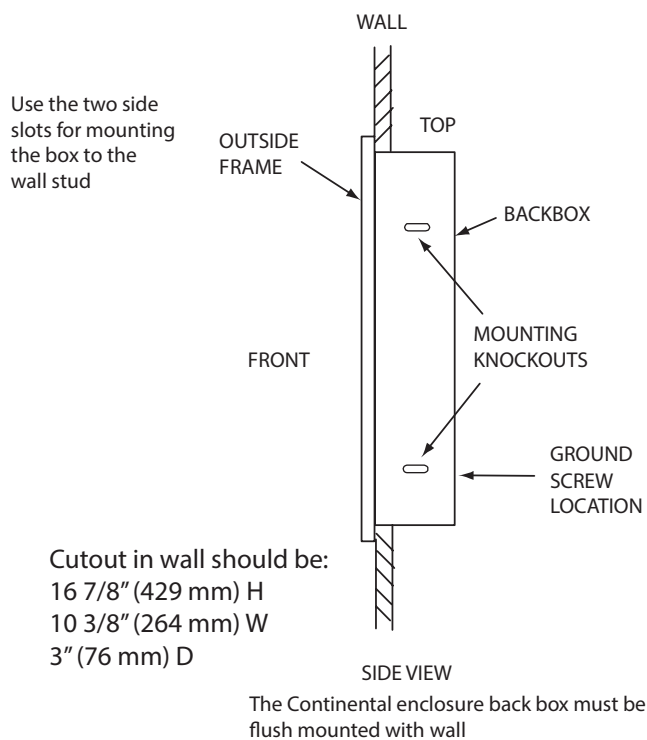

Figure 8. Mounting the Continental enclosure
The Continental enclosure flush mounts directly inside the wall to the wall stud as shown in figure 8. Mount the back box flush with the wall and right-side up (the ground screw location is at the bottom).
4. Insert the enclosure into the wall cutout and using the enclosure as a template mark the top mounting hole location as shown in the side view in figure 8. Ensure that at least one side is beside a wall stud.